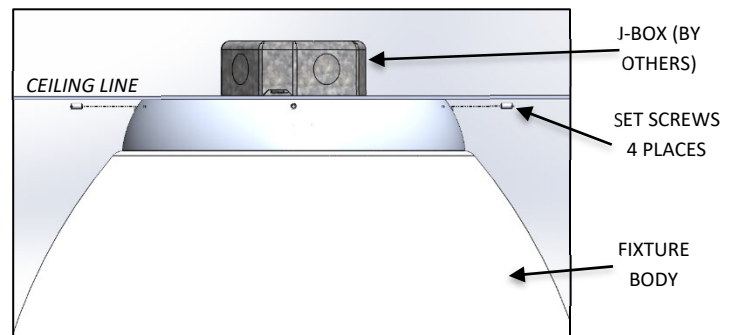

FIG. 10 – FIXTURE BODY INSTALLATION
- Slide FIXTURE BODY over MOUNTING PLATE. Tighten SET SCREWS (do not over tighten - hand tighten only) to secure FIXTURE (make sure that all the SET SCREWS engage the MOUNTING PLATE in order to safely hold the FIXTURE) as shown below in FIG. 10.